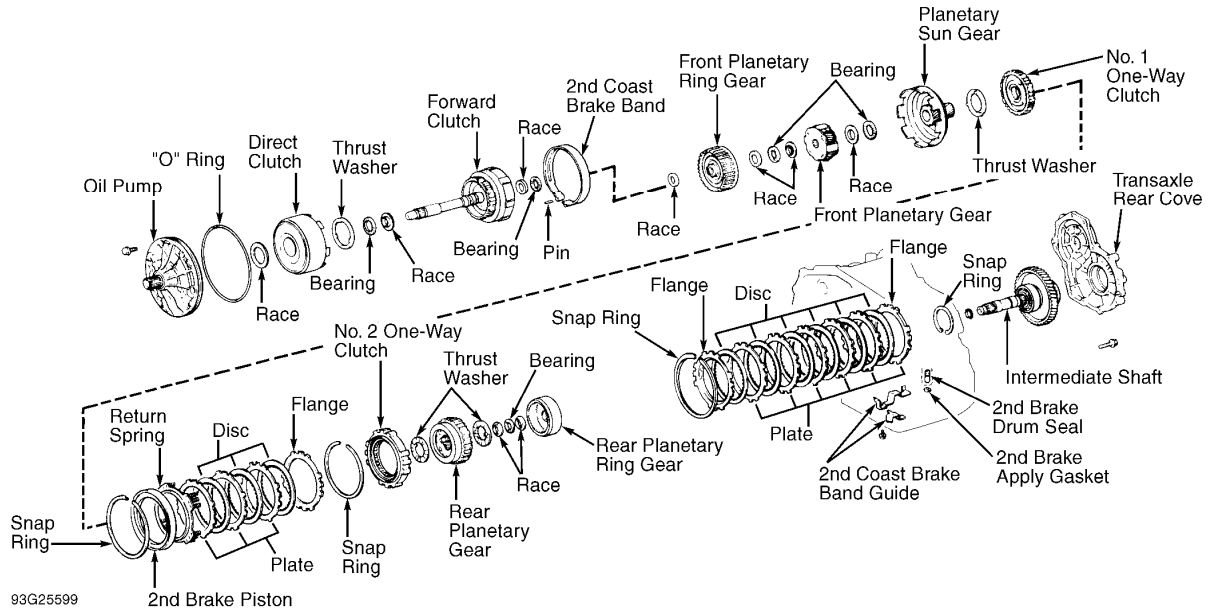

Fig. 19: Exploded View Of Transaxle Case Internal Components (A-241E & A-244E Shown; All Others Similar)
9. Remove oil pump retaining bolts. Using appropriate puller, pull oil pump free from transaxle case. Remove oil pump. Remove race from oil pump. Remove direct clutch and forward clutch from transaxle case. Remove direct clutch from forward clutch. Remove thrust washer, bearings and races from both sides of forward clutch. See Fig. 19 .
10. Using small screwdriver, push 2nd coast brake band pin inward and remove pin from oil pump mounting bolt hole. Remove 2nd coast brake band. Remove front planetary ring gear. Remove race and bearing from ring gear. See Fig. 19 .
12. Remove 2nd brake drum retaining snap ring. Remove 2nd brake drum. Remove thrust washer and 2nd brake piston return spring. Remove plates, discs and flange. Note number and location of components. Remove No. 2 one-way clutch retaining snap ring. Remove No. 2 one-way clutch and rear planetary gear. See Fig. 19 .